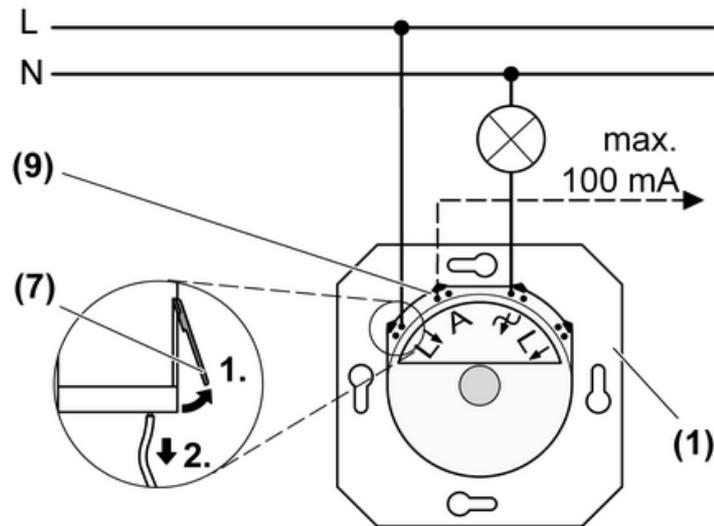
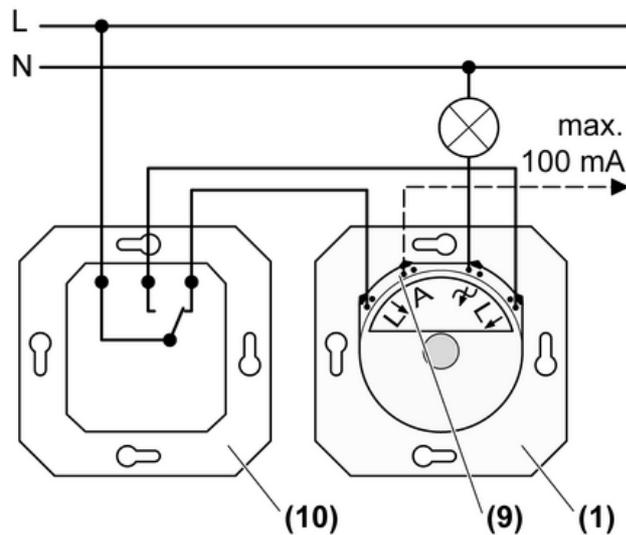

Figure 2: Connection diagram
Figure 3: Changeover switch
- Control output **A** (9) (Figure 2) to output the switching state of the device for automatic power disconnection or relay
- Connect the dimmer (1) according to the connection diagram (Figure 2). Alternatively, install with a changeover switch (10) (Figure 3).
- ⓘ Pull the connecting cable out of the push terminal (7).